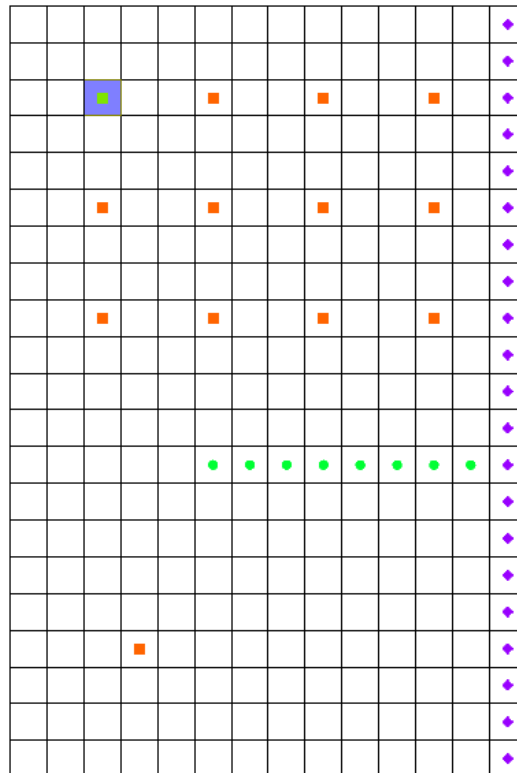

Figure 4 Selected MNW well cell
- Using the **Select Cells**  tool, select the 3D grid cell highlighted in Figure 4.
1. If necessary, re-select the grid cell selected in Figure 4 (Cell ID 31).